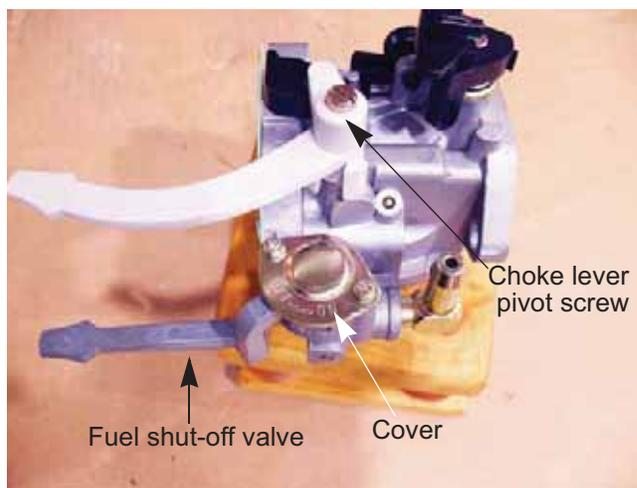

Figure 4.36
2. Remove the choke lever pivot screw. See Figure 4.36.
4. Remove the shut-off valve cover using a #2 phillips screw driver. See Figure 4.36.